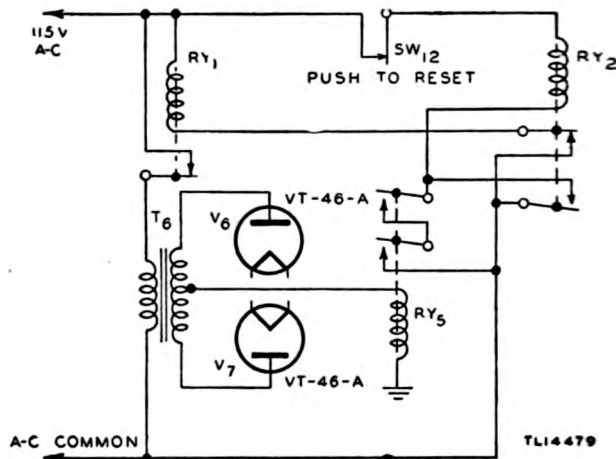

Figure 72. OVERLOAD RESET switch—functional diagram.
h. OVERLOAD RESET SWITCH SW₁₂ (fig. 72). Switch SW₁₂ is a momentary push-button type of switch located on the front panel of the transmitter. The switch is normally closed; but when pressed, it interrupts the energizing current through the coil of overload reset relay RY₂, which in turn operates